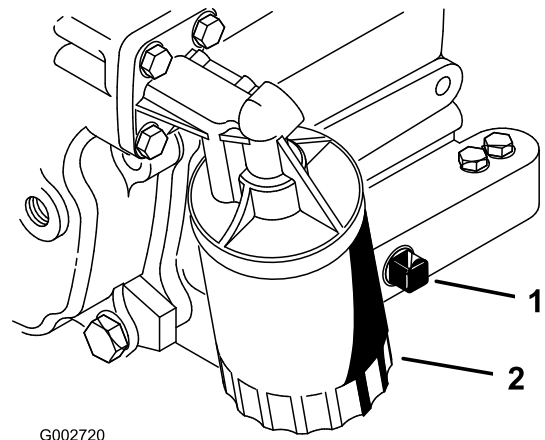

Figure 26
- Remove the drain plug (Figure 26) and let oil flow into a drain pan. When the oil stops, install the drain plug.
- Remove the oil filter (Figure 26). Apply a light coat of clean oil to the new filter gasket.